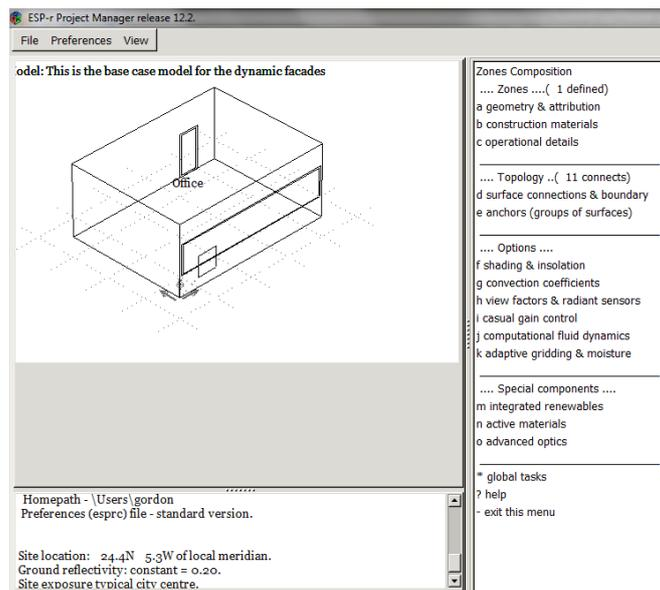

Figure 3
Step 3: Once in the composition menu click >active materials(figure 3)